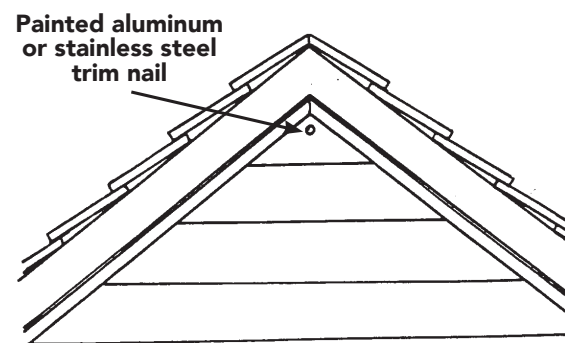

Figure 45
- It is necessary to fasten the last panel at the gable peak with a trim nail. This is one of the few times a nail should be placed in the face of the vinyl siding (Figure 45). Minimum fastener length must be sufficient to penetrate sheathing other nailable substrate and framing a total of a minimum of 1 1/4" (32mm) or in accordance with the manufacturer's installation instructions.